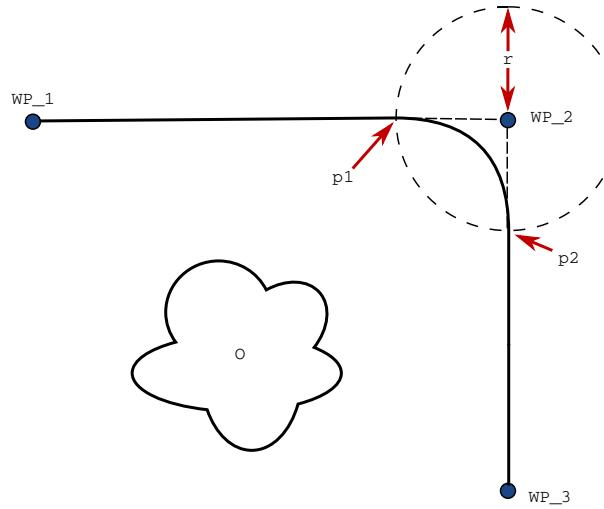

Figure 14.3: Blend over WP\_2 with radius  $r$ , initial blend position at  $p_1$  and final blend position at  $p_2$ .  $\circ$  is an obstacle.
**Blend parameters** Apart from the waypoints, multiple parameters will influence the blend trajectory (see figure 14.3):